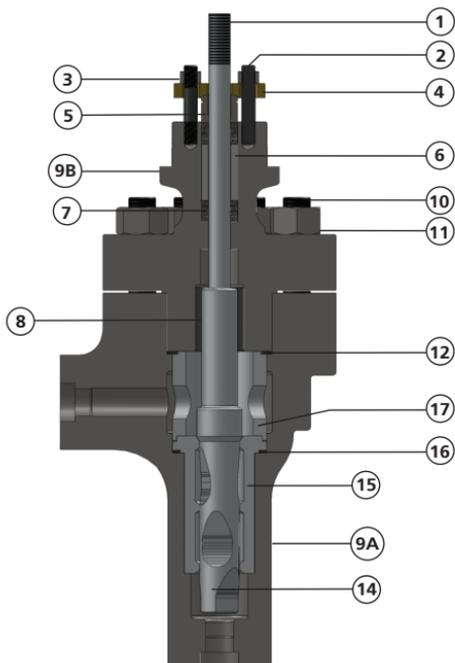

Figure 9 - Bolting Torques And Tightening Sequence
Caution: Care must be taken to ensure that the cage, seat and bonnet are properly aligned in the body. Tighten nuts (11) until metal to metal contact is obtained with proper bolt torque. Refer to Figure 9 for proper bolt torque and tightening sequence specifications.